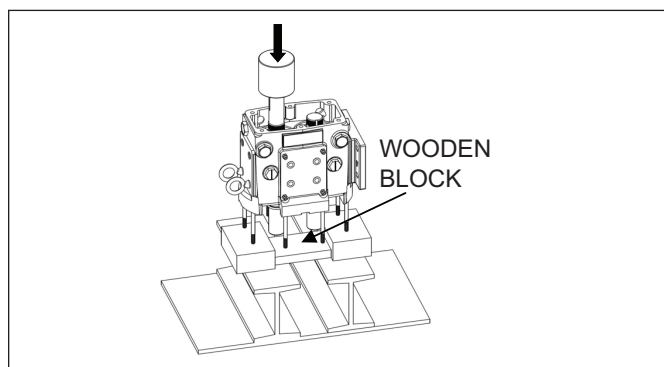

Figure 42. Pressing Shafts from Gear Case
4. Set the gear case in a press with the fluid end side facing down (Figure 42). Use a wooden block to protect the shafts from hitting the ground when pushed out. Once the protective block is in place push the shafts out of the gear case. Reference Table 4 for the required force (in tons) needed to press the shafts out of the gear case.